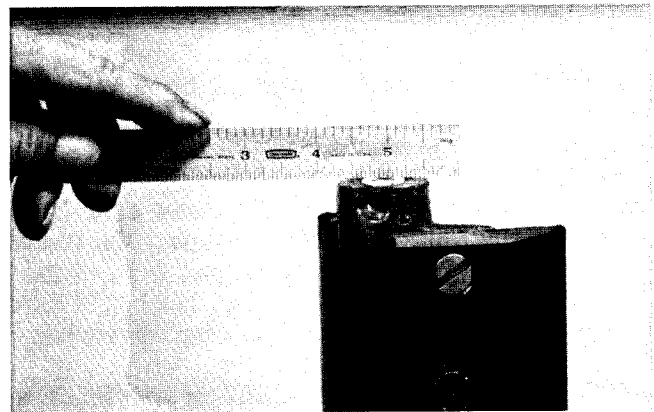

Figure 35
3. Press end bushings into bedbar far enough so plastic sleeve collar is below bedbar end face (Fig. 35).